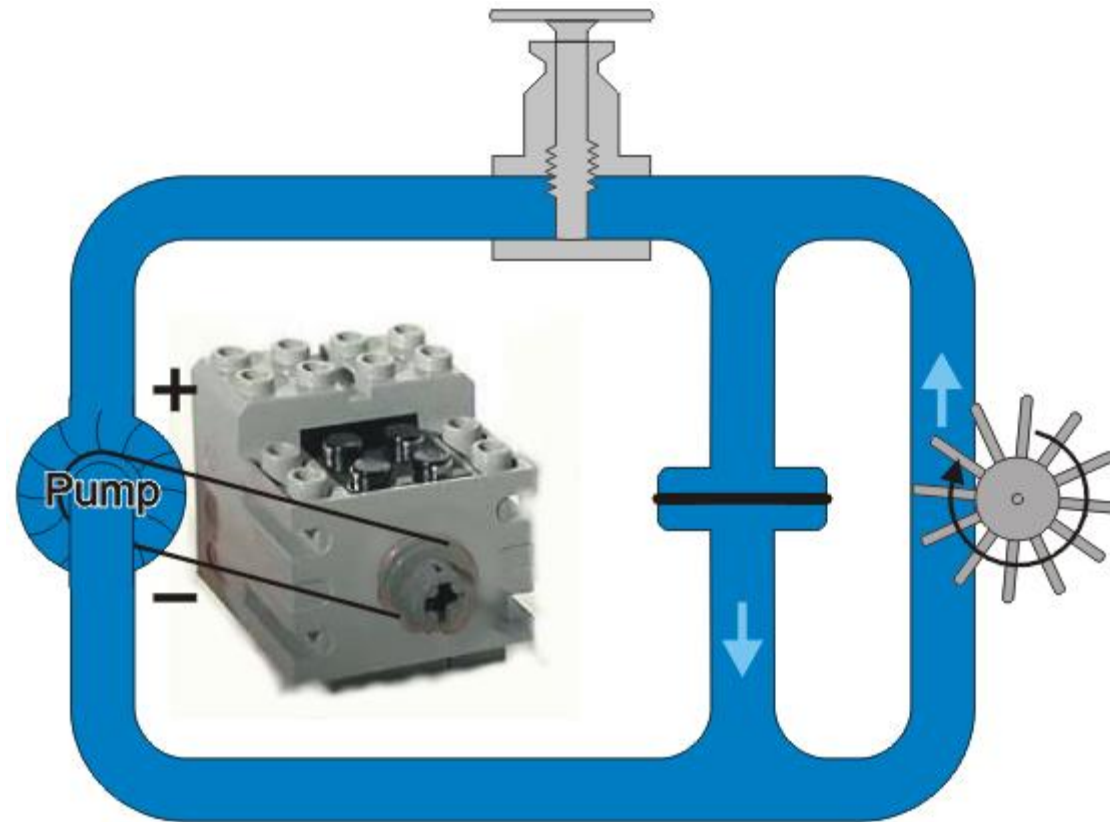

Fig 25: The membrane returns to the neutral position but the water wheel is turning.
- Now the membrane begins to push back to return to its neutral position and this in turn causes the water wheel to rotate. When the membrane is back to its neutral position, however, the water wheel is now rotating, as is shown in **Fig.25**.